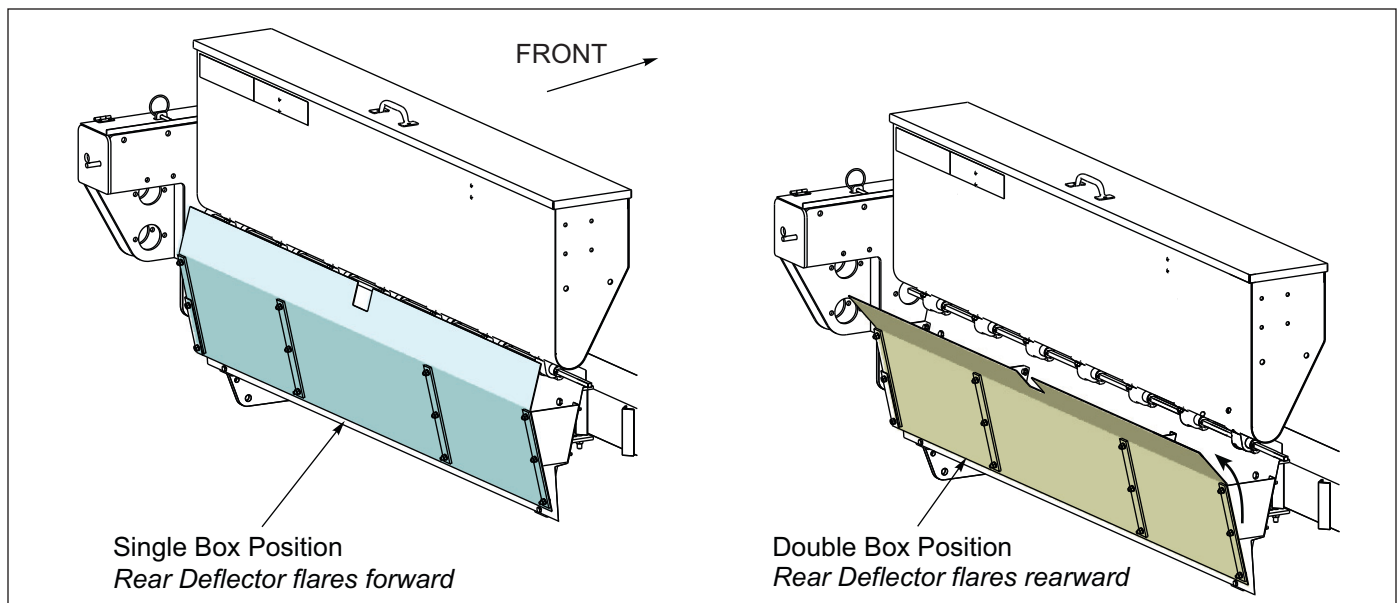

Figure 2-52: Deflector Shield
3. Remove the Rear Deflectors from the Deflector Assembly. Turn the Rear Deflectors around so that the upper lip flares rearward instead of forward. **See Figure 2-52.** Re-install Rear Deflectors to the Deflector Assembly.